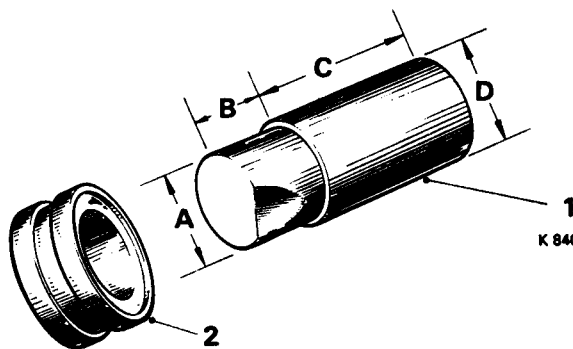

FIG. M22 SLIP RING PRESS TOOL
8. Place press tool (see Fig. M22) so that the spigot registers in the slip ring bore with the cut-away portion in line with the field leads. Gently press the slip-ring down until the press tool spigot abutts the rotor shaft. Pass the field leads through cut-away portion of press tool as they appear.